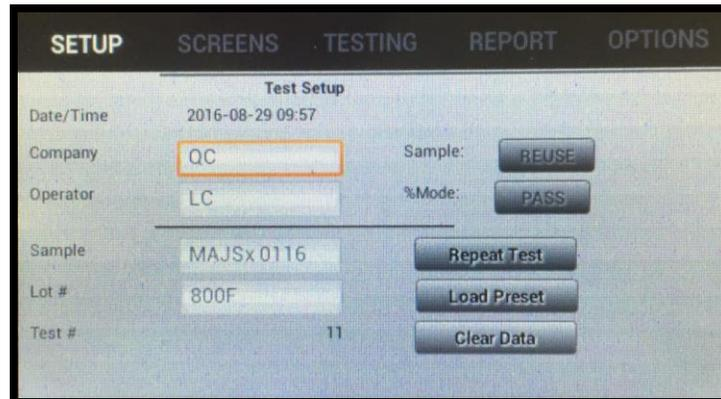

Figure 38
3. Should this be the first time the instrument is being used, the input cells will be blank. (See Figure 21) If the instrument has been used prior, the cells will be shaded gray and pre-populated with data from the previous analysis. (See Figure 38)